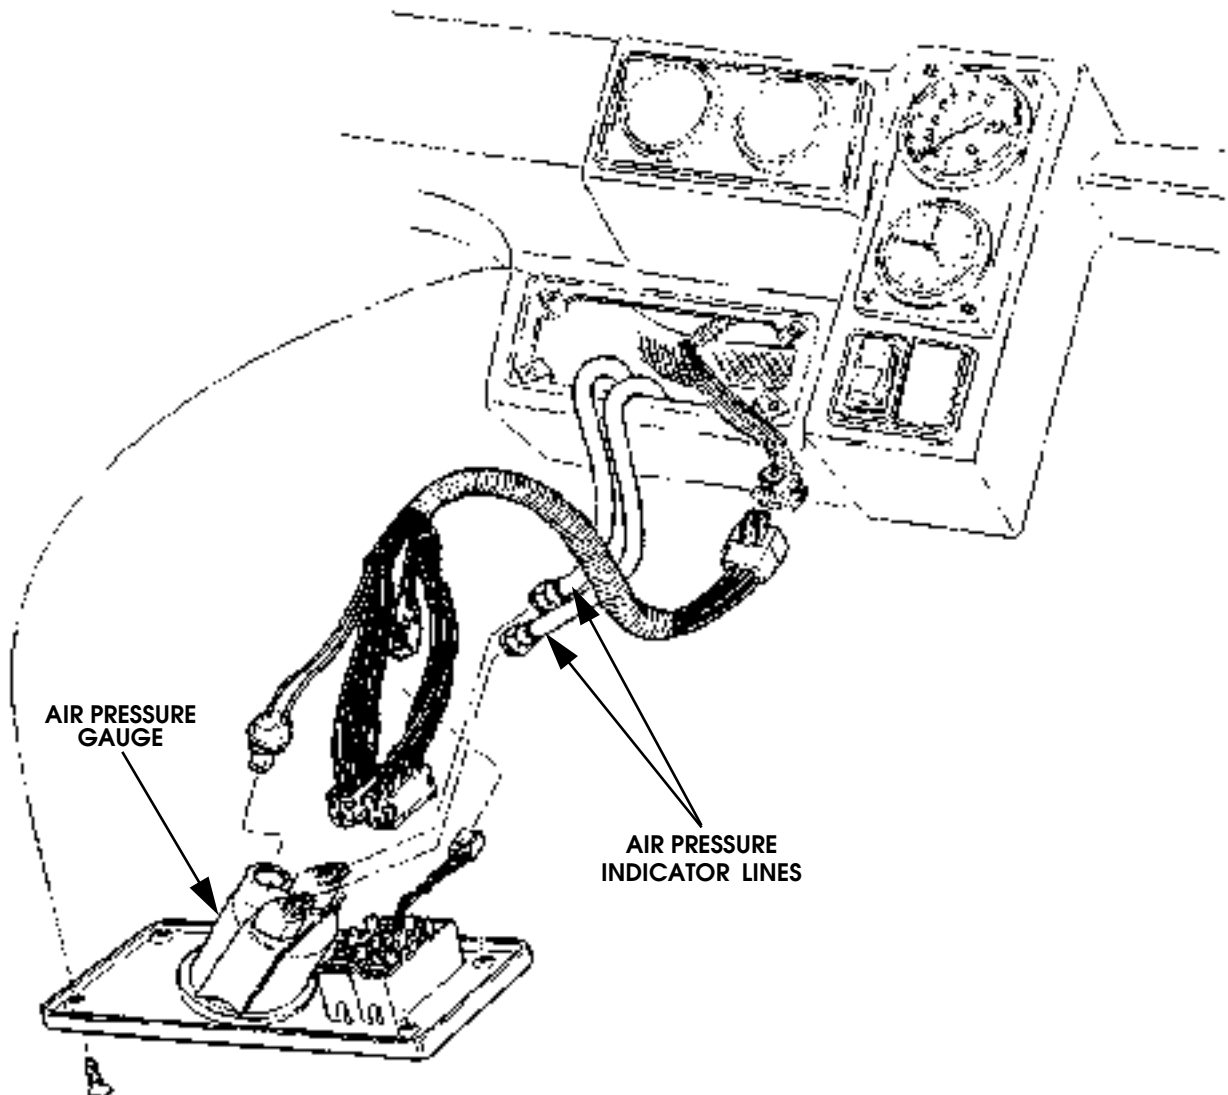

Figure 6-62: Front Air Pressure Indicator Line
2. Disconnect air pressure indicator lines from air pressure gauge (Figure 6-62).
1. Connect air pressure indicator lines to air pressure gauge (Figure 6-62).